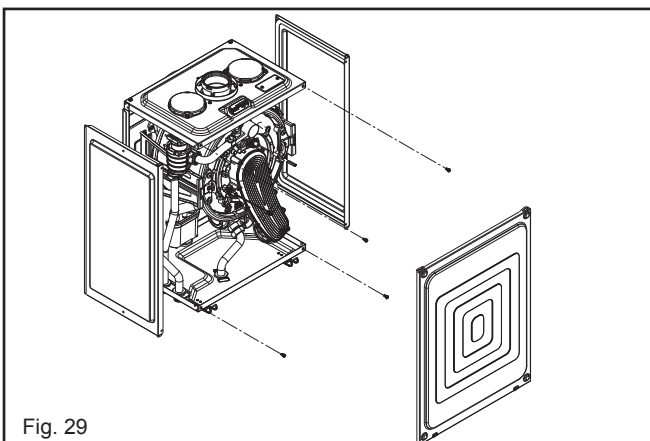

Fig. 29
6.4.1 AIR BOX FRONT COVER REMOVAL (fig. 29)